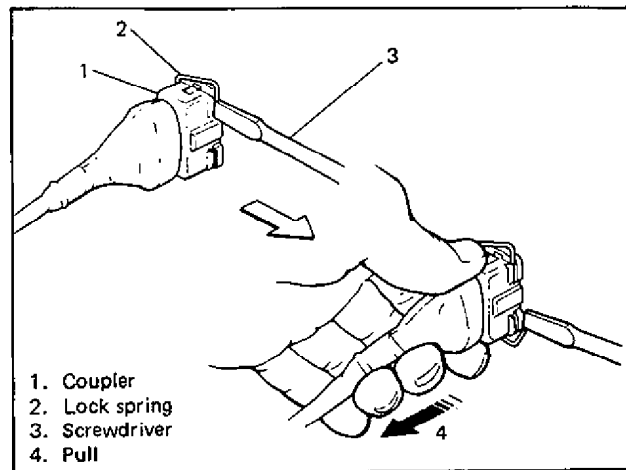

Fig. 6-2 Disconnection of Spring Lock Type Coupler
- When disconnecting couplers, don't pull wire harness but make sure to hold coupler itself. With lock type coupler, be sure to unlock the lock before disconnection. With spring lock type coupler as shown in Fig. 6-2, push out spring before disconnection, but only within the extent that spring is not deformed. Attempt to disconnect coupler without unlocking may result in damage to coupler. When connecting lock type coupler, insert it till clicking sound is heard and connect it securely.